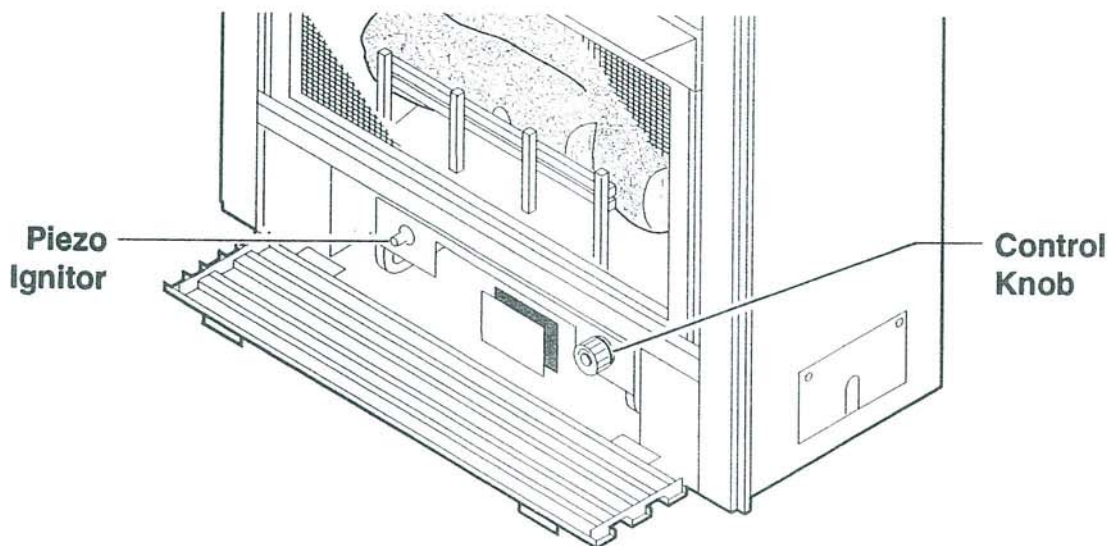

FIGURE 13
4. Refer to FIGURE 13 for location of piezo ignitor and control knob. Turn control knob clockwise  to OFF position.